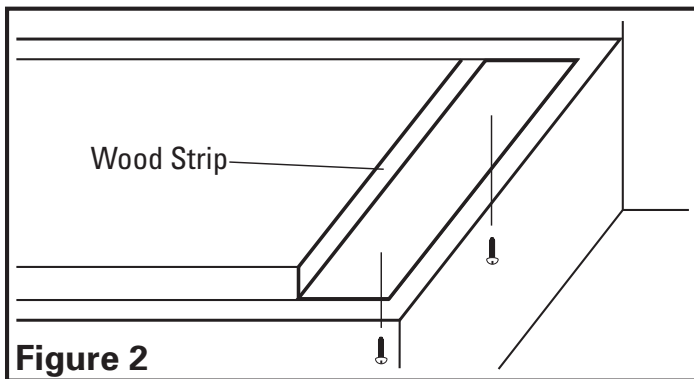

Figure 2
- If the hood will be installed under cabinets that have a recessed bottom, it will be necessary to install wood mounting strips (not included) so the hood will mount properly (**Figure 2**).